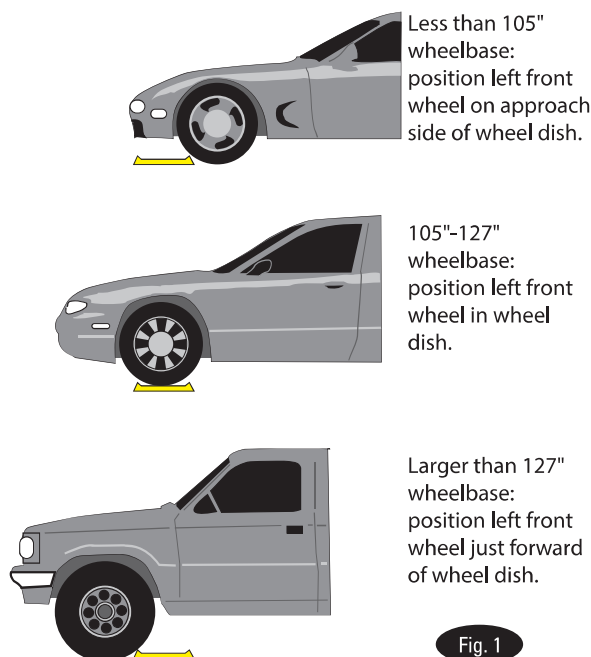

Fig. 1
2. Spot vehicle over lift with left front wheel in proper spotting dish position, Fig. 1.